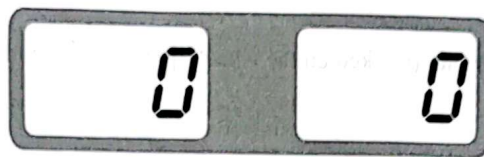

Fig. 5
4.1.8. After finishing clipping the counterweights, put down the guard or press **START**, to perform balancing spin again, if comes out 00 00, means balancing succeed. (Fig.5)